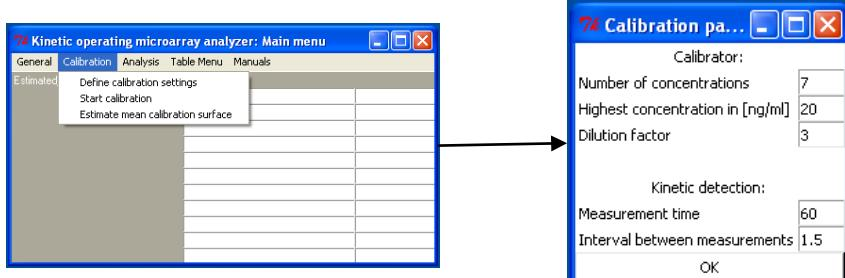

Figure 5. Definition of calibration parameters.
1. To define kinetic calibration parameters, go to “Calibration” → “Define calibration settings” and enter the number of calibrator concentrations in dilution series, the highest calibrator concentration, the dilution factor, the total time of kinetic detection and the time interval between each of measured time-points that were used for collecting of calibration data (**Fig. 5**).